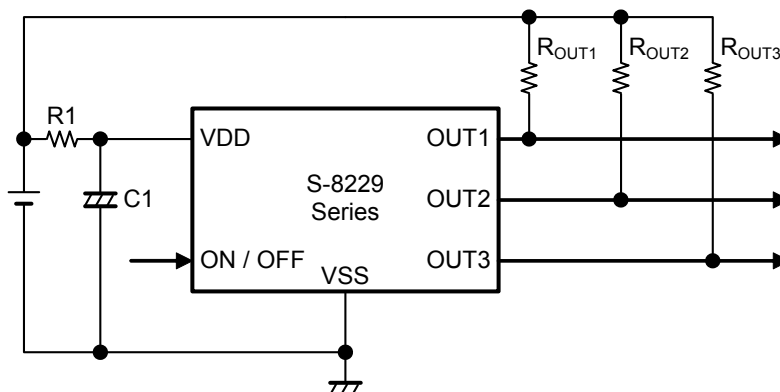

Figure 8
- In applications where a resistor is connected to the input (refer to **Figure 8** in "**■ Standard Circuit**"), the feed-through current which is generated when the output switches causes a voltage drop equal to feed-through current \times input resistance. In this state, the feed-through current stops and its resultant voltage drop disappears, and the output switches. The feed-through current is then generated again, a voltage drop appears. Note that an oscillation may be generated for this reason.